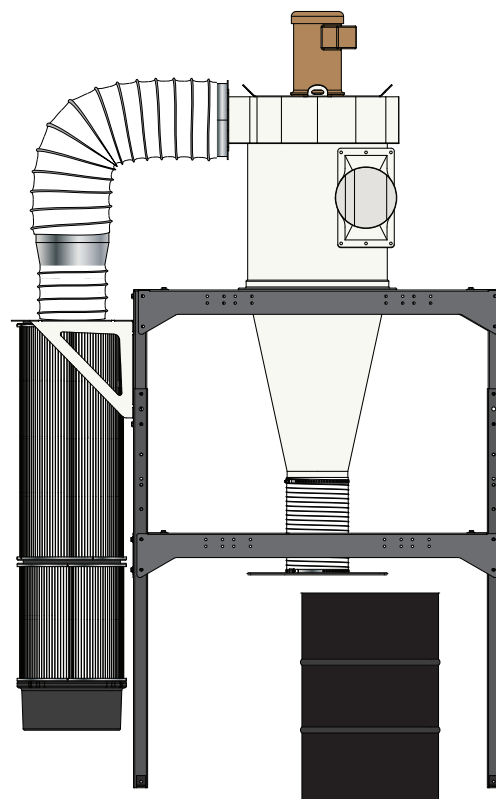

FIG. 17
Unclamp the Lid (X) and test to see if the Drum (Y) is easy to remove from underneath the Cone (C) [FIG. 17].